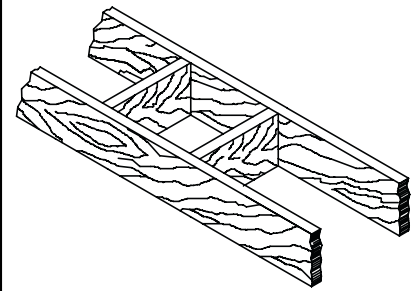

Figure 23
1. Cut and frame the holes in the ceiling, floor and roof where the chimney will pass (see **Figure 23**). Use a plumb-bob to line up the center of the holes. The sizes are indicated in **Table 1** for the wall and ceiling holes and **Table 2** (**Page 18**) for the roof holes.